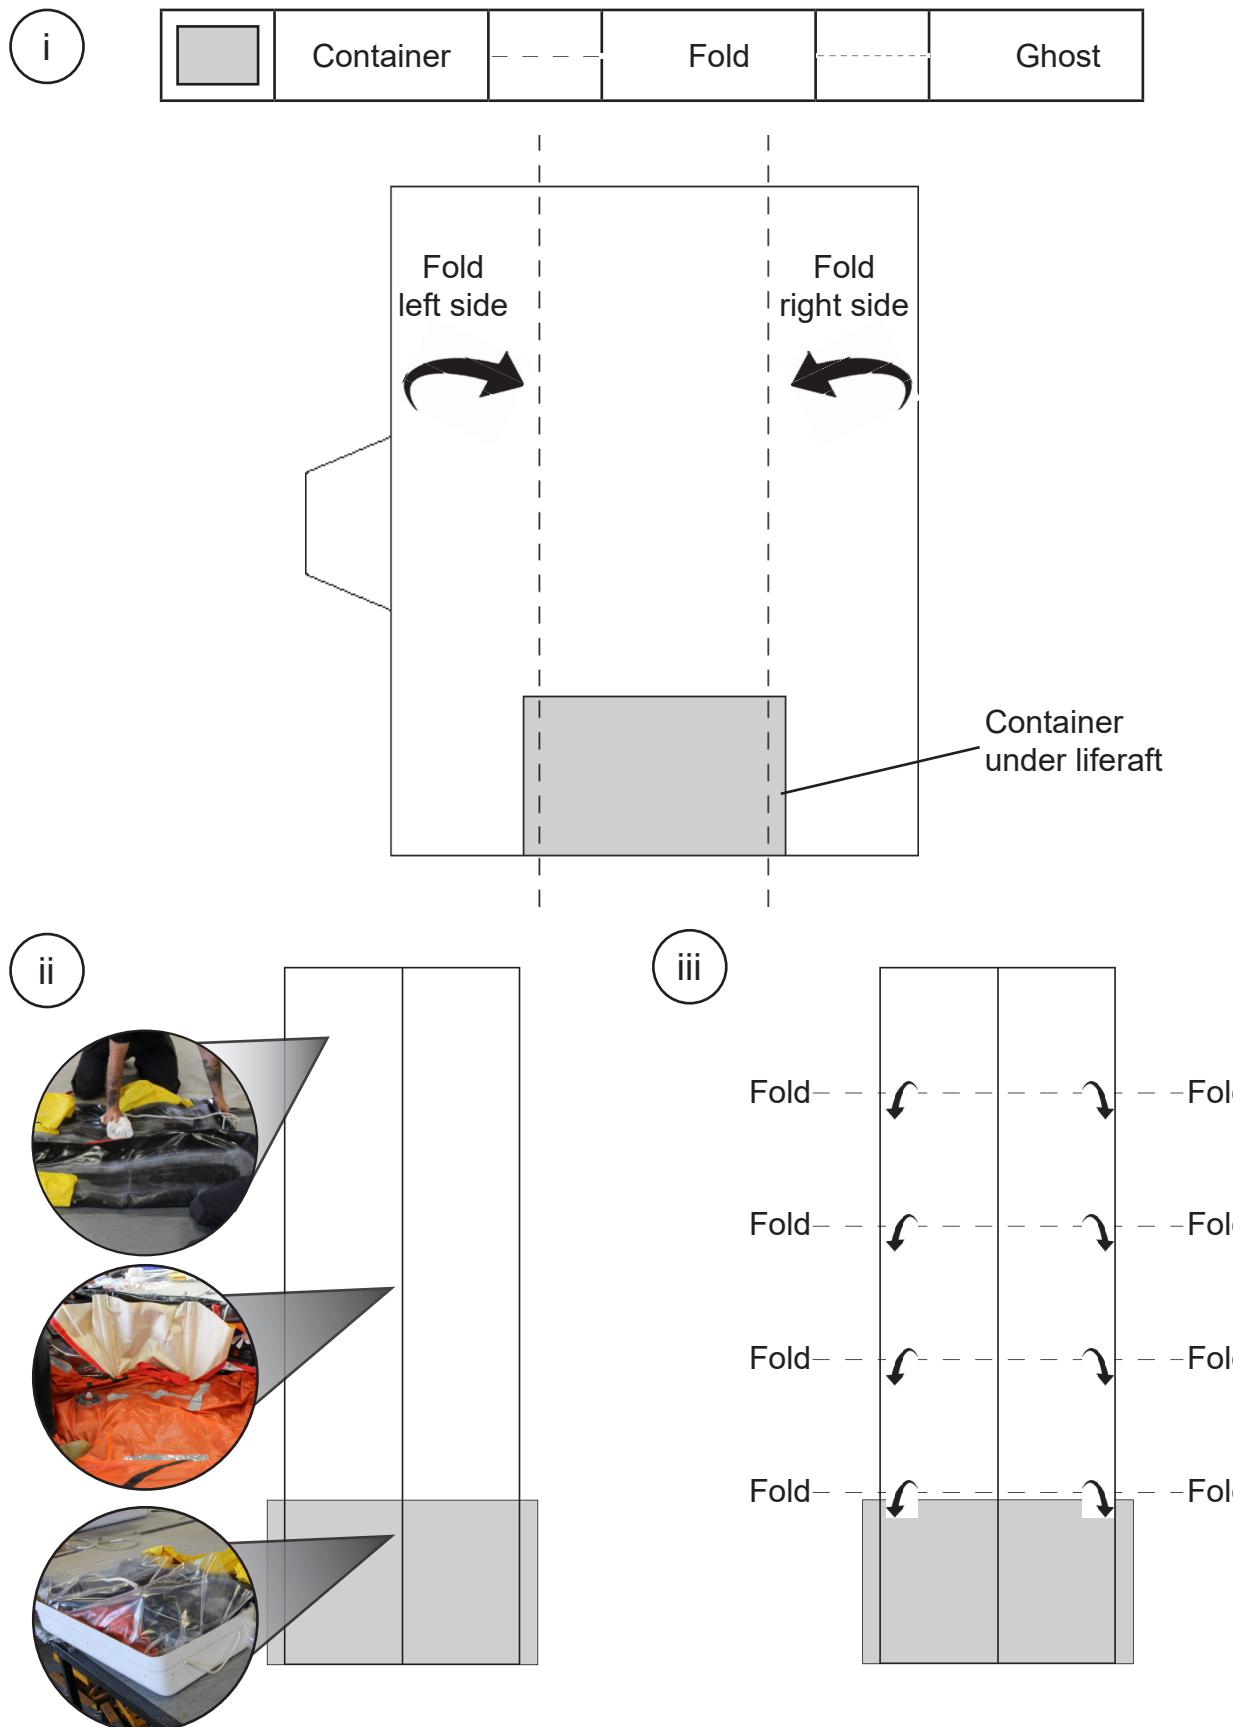

FIGURE 884
Refer to **Figure 884**.
Refer to **Figure 884 (i)**.
Refer to **Figure 884 (ii)**.
- (g) Use four full folds to fold the liferaft into the container. Make sure each fold is as tight as possible. Refer to **Figure 884 (iii)**.